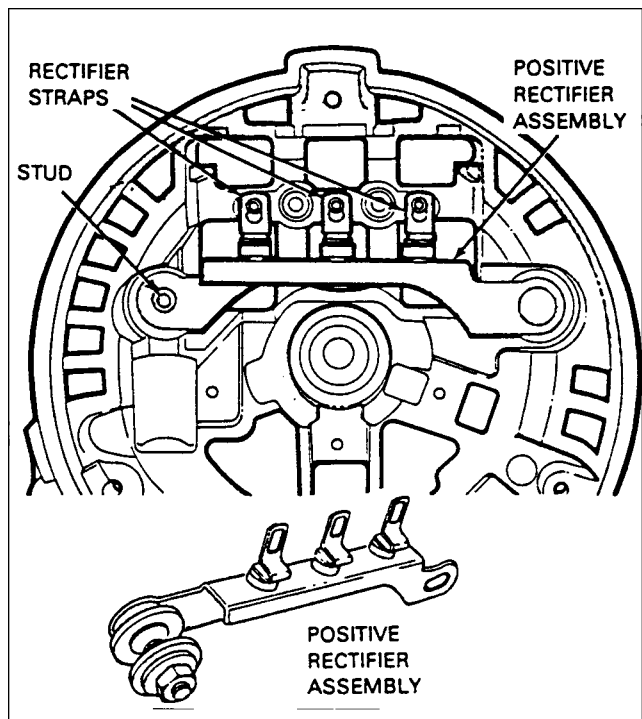

Figure 24-23. Installation of Positive Rectified Assembly
8. Install positive heatsink assembly by placing battery terminal through round plastic insulator and capacitor end over heatsink mounting stud. Ensure three rectifier straps are over studs on terminal block. (Refer to figure 24-23.)